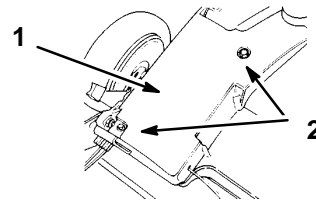

Figure 19
1. With the engine turned off, remove the two bolts securing the belt cover (Fig. 19) and remove the cover.